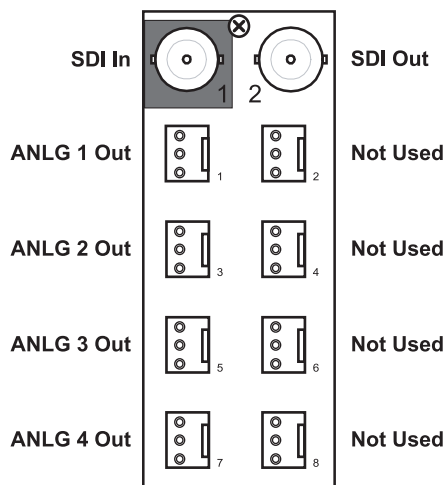

Figure 3.5 Cable Connections for the DMX-8259-4C
- **DFR-8310 series frames** — The **8310AR-034** Rear Module is required. The DMX-8259-4C is not compatible with the DFR-8310-BNC frame. Each rear module occupies one slot and accommodates one card. This rear module provides one SDI Input, one SDI output, and four analog outputs. (**Figure 3.5**)
- **DFR-8320, OG3-FR, and OGX-FR series frames** — The **8320AR-034** Rear Module is required. Each rear module occupies one slot and accommodates one card. This rear module provides one SDI Input, one SDI output, and four analog outputs. (**Figure 3.5**)